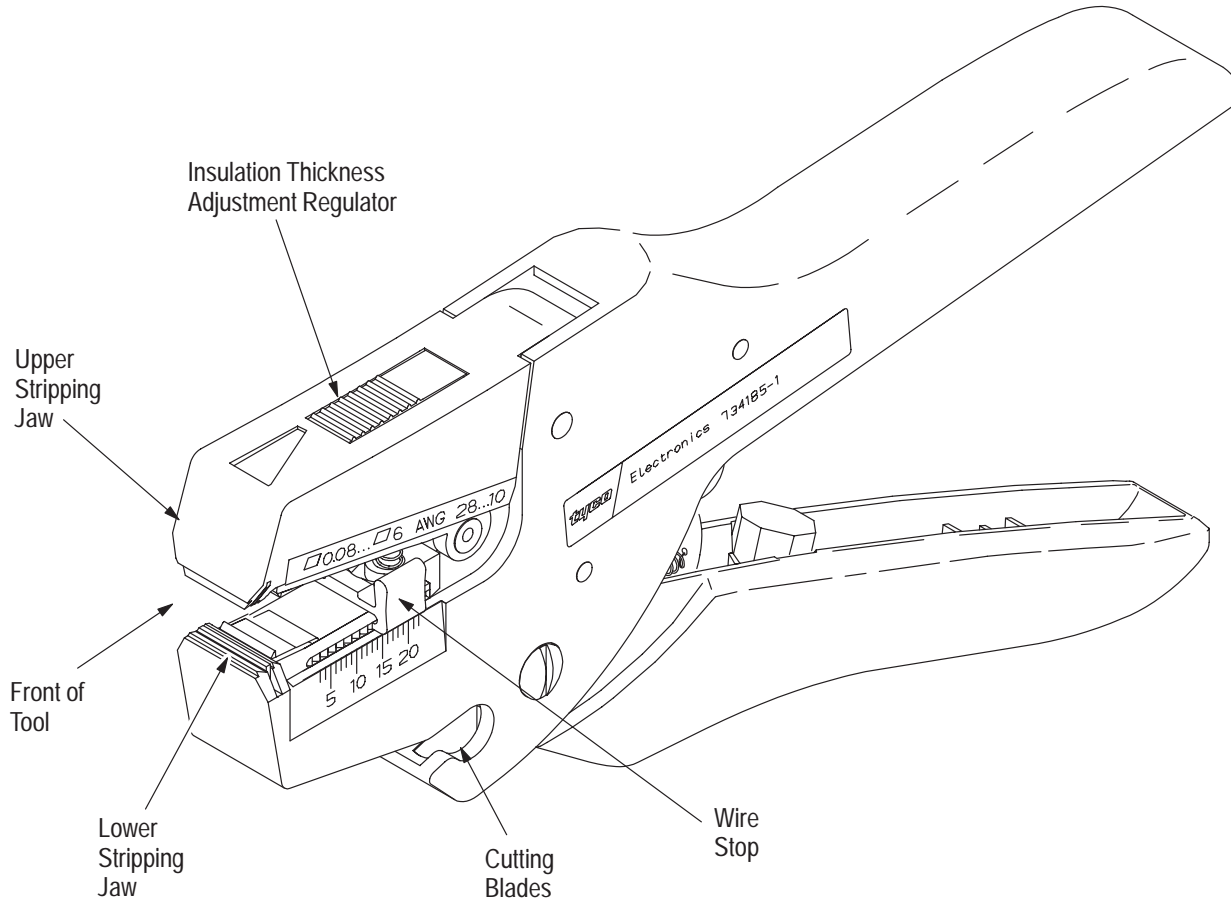

Figure 1
1. Insert wire into the cutting blades and squeeze handles to cut. See Figure 1.